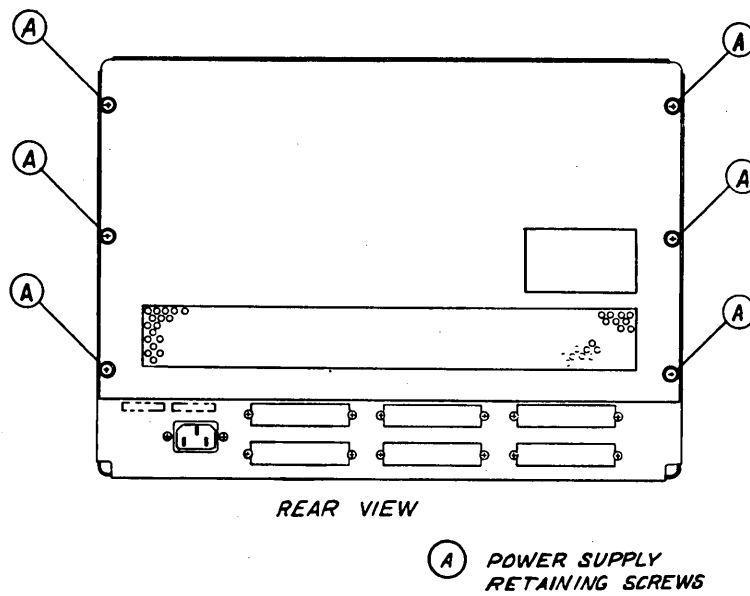

Figure 4-10. Power Supply Retaining Screw Locations
11. Remove six screws securing the power supply to the chassis. (Refer to Figure 4-10.)